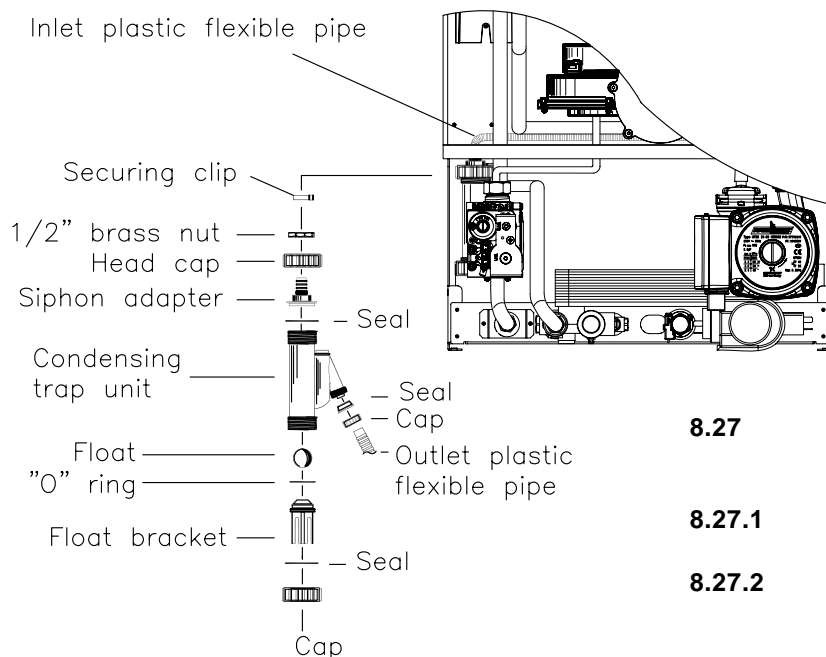

Fig.60
8.25 TO CLEAN AND REMOVE/REPLACE CONDENSING TRAP (Fig.60).